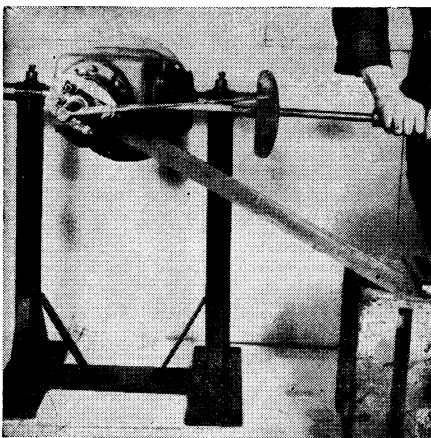

Fig. 32 Tightening pinion shaft nut with torque wrench
10. Place pinion and cage assembly over carrier studs. Hold flange and tighten pinion shaft nut to the correct torque, Fig. 32.